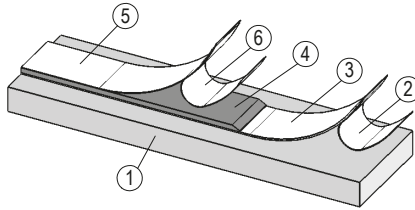

Fig. 1: Mounting of the magnetic tape
**Mounting (Fig. 1):**
1. Clean mounting surface ① carefully.
2. Remove protective film ② of the adhesive tape ③.
3. Stick down the magnetic tape ④.
5. Remove protective film ⑥ of the cover tape ⑤.